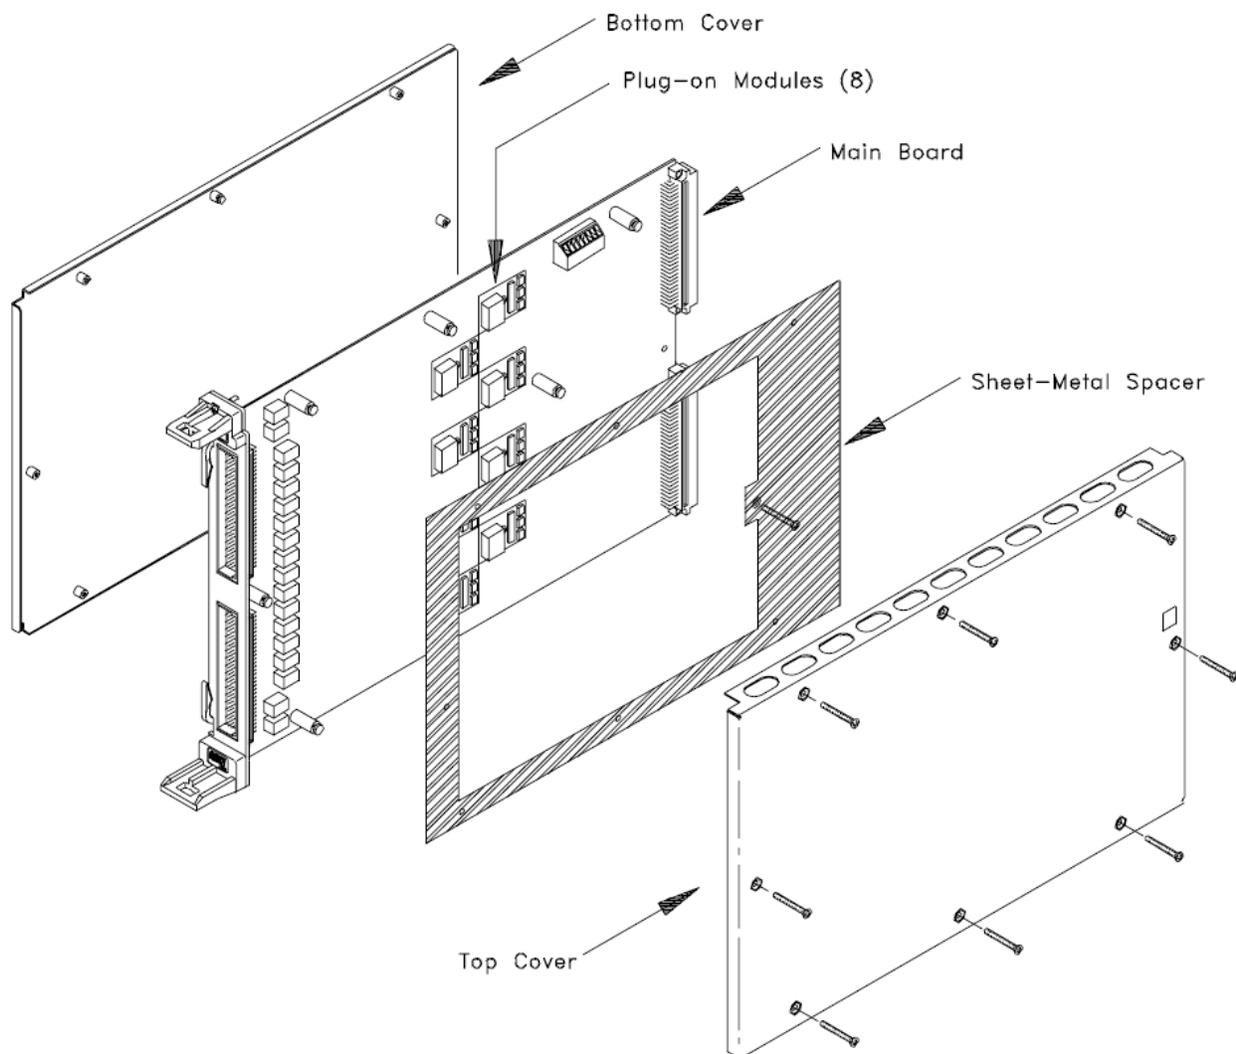
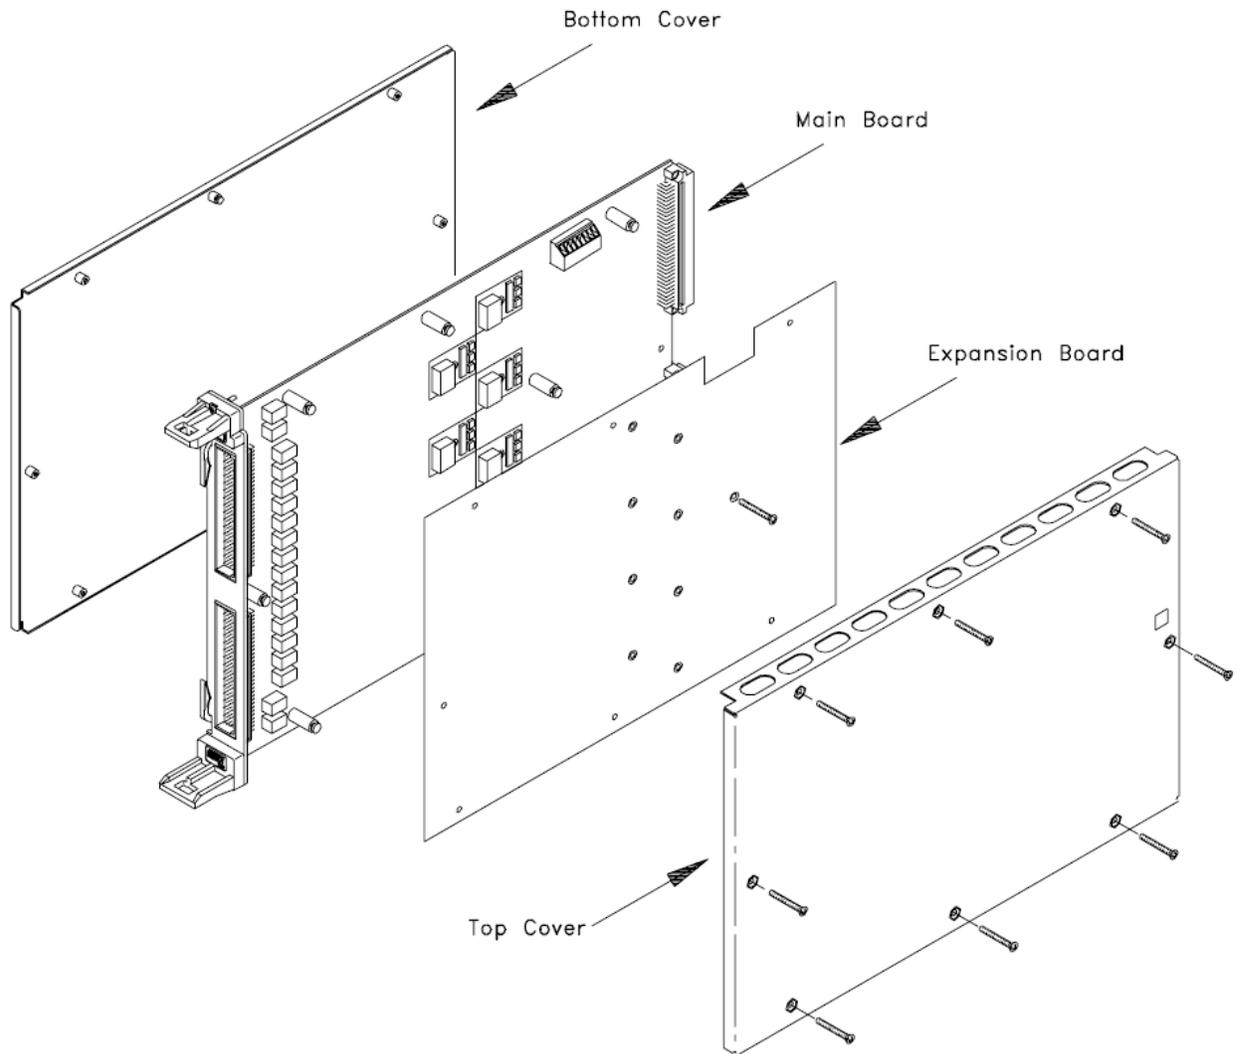

Figure E-1 8-Channel Disassembly
Figure E-2 Plug-on Channel Locations
Refer to Figures E-1 and E-2 during these procedures.
- 1** Remove the top cover. Refer to Figure E-1.
Install the hold down screw through the expansion board and secure with a T10 Torx Driver. Refer to Figure E-2.
Refer to Figures E-1 and E-2 during these procedures
- 2** Remove the screw holding the sheet-metal spacer (Figure E-1) or expansion board (Figure E-2). Remove the spacer or expansion board.